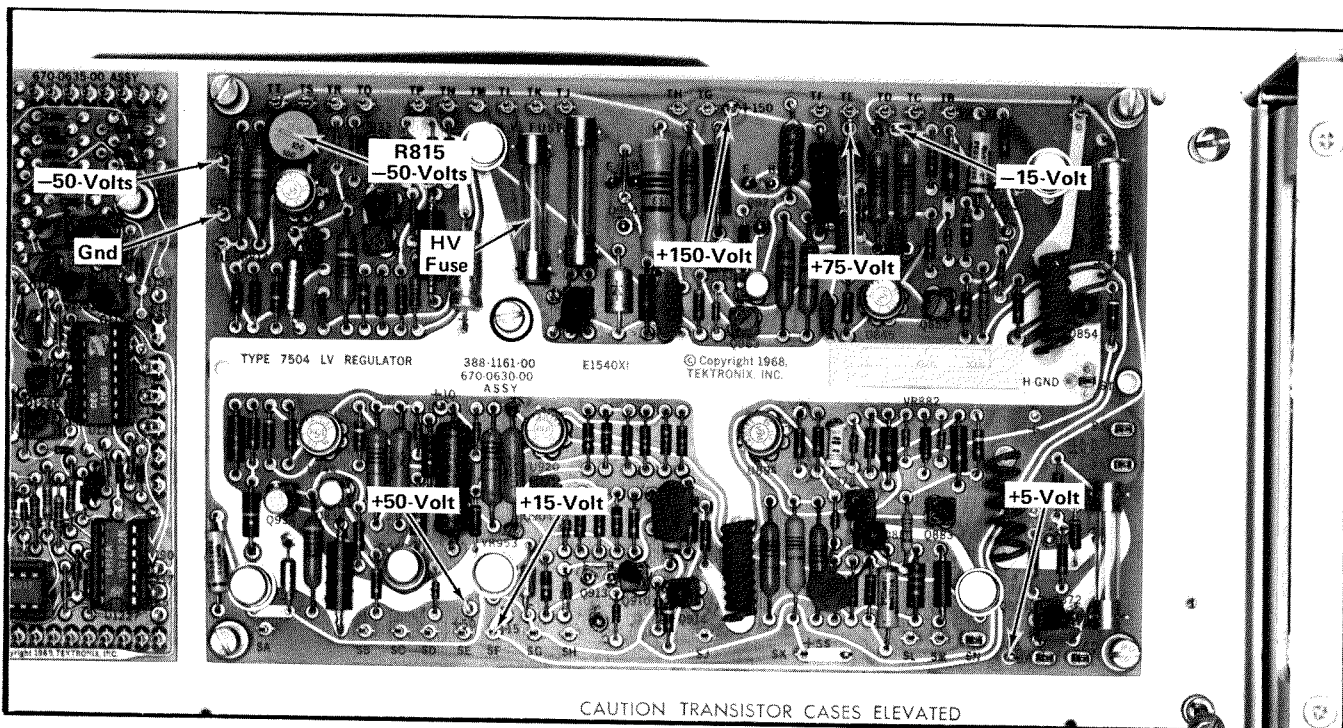

Fig. 5-2. Location of power supply test points and -50-Volt adjustment (LV Regulator board).
a. Connect the precision DC voltmeter from the -50-volt test point to the GND test point on the LV Regulator board (see Fig. 5-2).
c. ADJUST—-50 Volts adjustment R815 (see Fig. 5-2) for -50 volts.
a. Table 5-1 lists the power supplies in the instrument. Check each supply with the precision DC voltmeter for output voltage within the given tolerance. Power supply test points are shown in Fig. 5-2.
Ripple measurement must be made at the Low Voltage Regulator board using the test points provided with reference to the GND test points (see Fig. 5-2).
h. Remove the high voltage fuse (see Fig. 5-2).